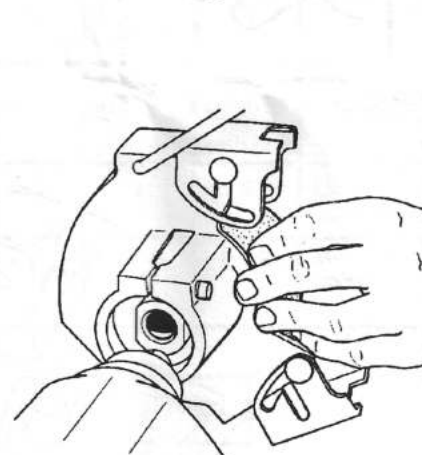

Fig. 19
**20.** Place the "neck" of the grinding wheel guard on the Mark V quill, as demonstrated in Fig. 19. Do not tighten anything yet.